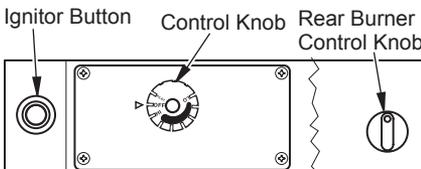

Figure 21 - Control Knob(s) and Ignitor Button Locations
5. Turn control knob counterclockwise ↶ to the PILOT position. Press in control knob for five (5) seconds (see Figure 21).